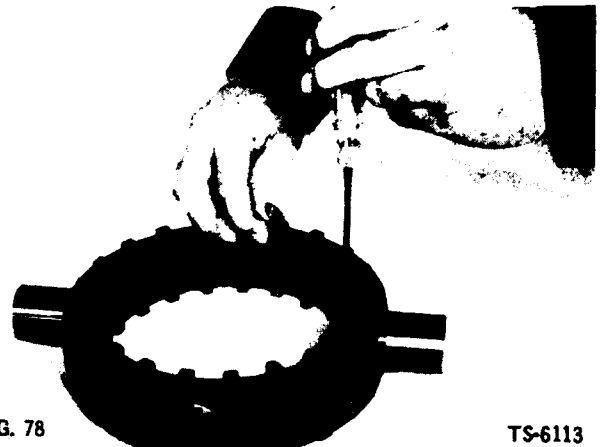

FIG. 78
- Remove snap ring from spider (Fig. 78).